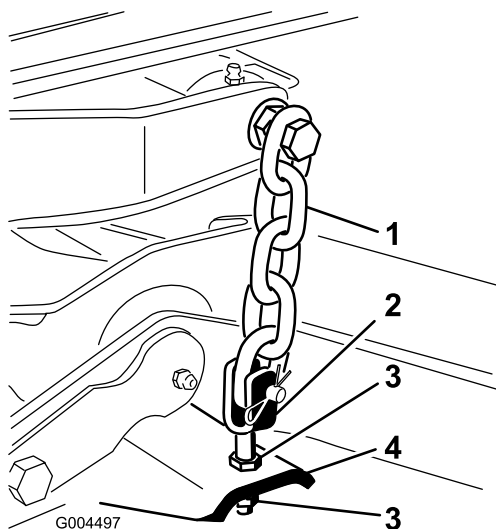

Figure 79
7. Adjust the jam nuts securing the rear deck yokes/chains to raise the rear of the deck so that the blade pitch is set to 5/16 inch (8 mm) (Figure 79).